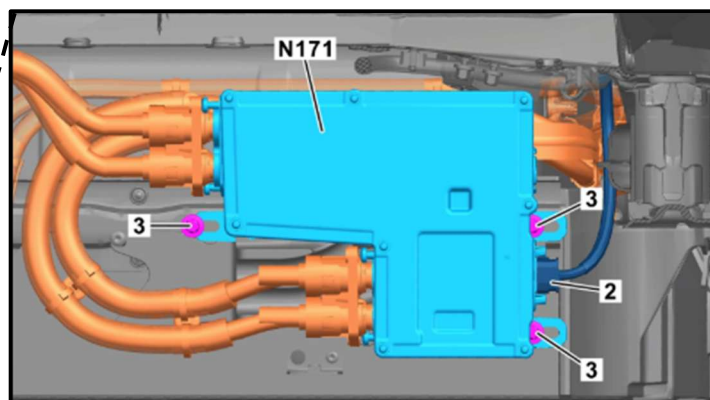
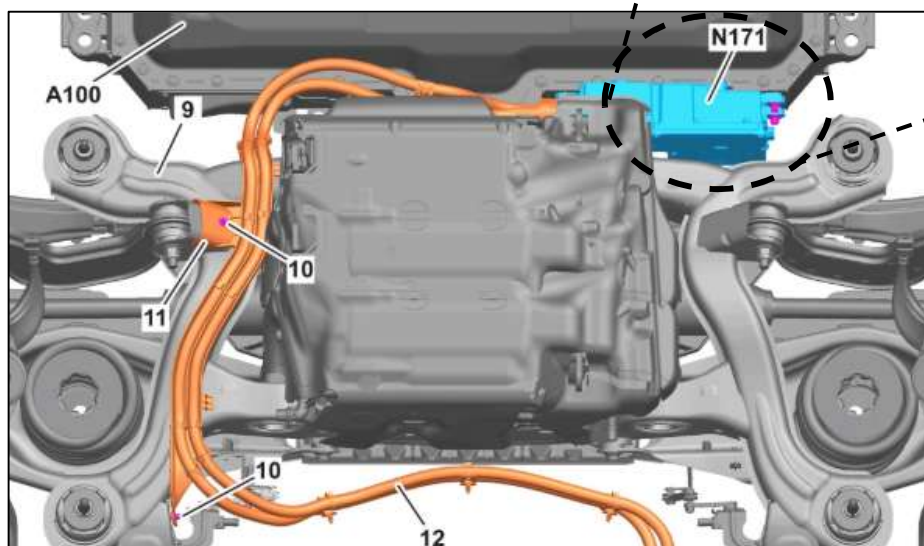

Figure 6
Figure 7
- Remove screws (**Figure 7, 10**), and guide electrical line duct (**Figure 7, 11**) out of rear axle.
- Remove HV harness of HV disconnect device (**Figure 6, N171**) from HV battery (**A100**).
- Remove screws (**Figure 6, 3**) and remove HV disconnect device (**Figure 7, N171**) together with HV harness (**Figure 7, 12**).